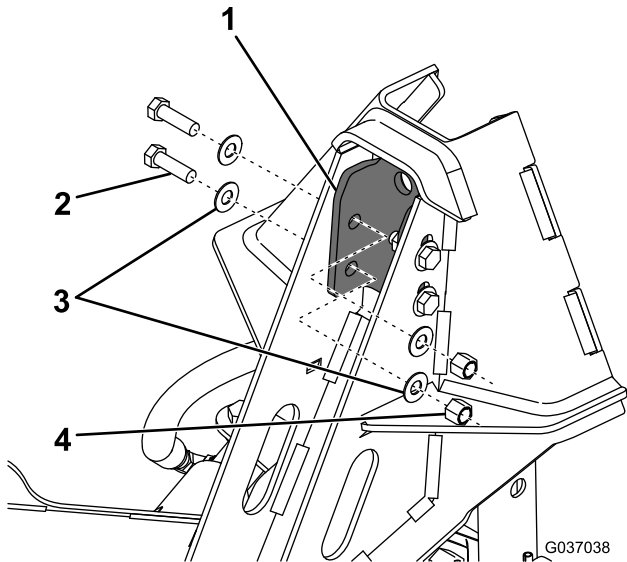

**Figure 5**
2. Hook the 2 trip springs through the holes on the push frame (Figure 5).
- Hook the other ends of the trip springs to 2 eyebolts (Figure 5).
- Insert the threaded end of the eyebolts through the holes on the plow blade and secure them using 2 washers (1/2 inch) and 2 nylon locknuts (Figure 5).